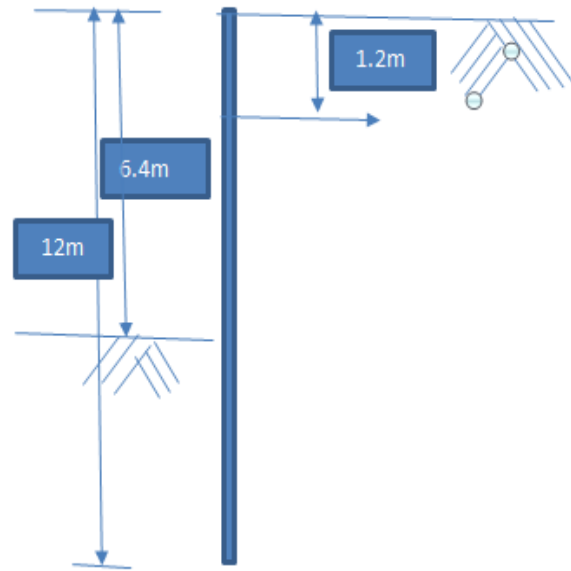

Figure 3 / Rajah 3
- [b] An anchored sheetpile wall retains soil of 6.4m height, and the pile has a total length of 12m. The soil has unit weight of 19kN/m^3 and $\phi = 30^\circ$. The tie rod is at 1.2m below the ground surface and 3m apart space as shown in **Figure 3**.